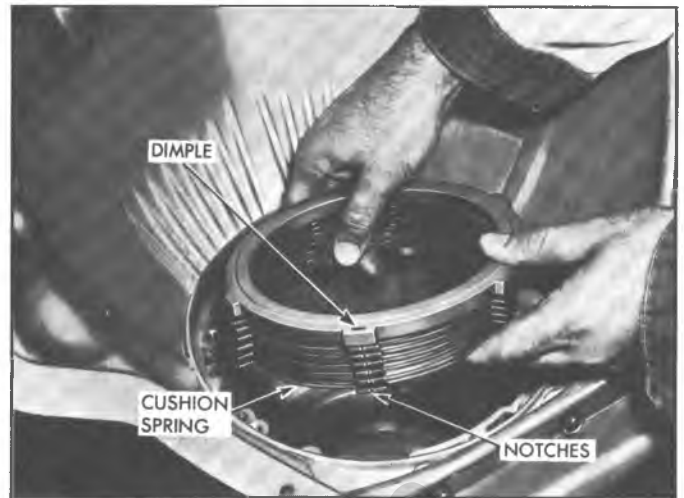

Fig. 30PG--Installing Clutch Plates (Typical)
12. Lubricate and install the reverse clutch pack (fig. 30PG) beginning with a reaction (spacer) plate and alternating with the drive plates (faced) until all reaction plates and all drive plates are in place. The notched lug on each reaction plate is installed in the groove at the 7 o'clock position in the case. Then install the thick pressure plate which has a "dimple" in one lug to align with the same slot in the case as the notched lugs on the other reaction plates.